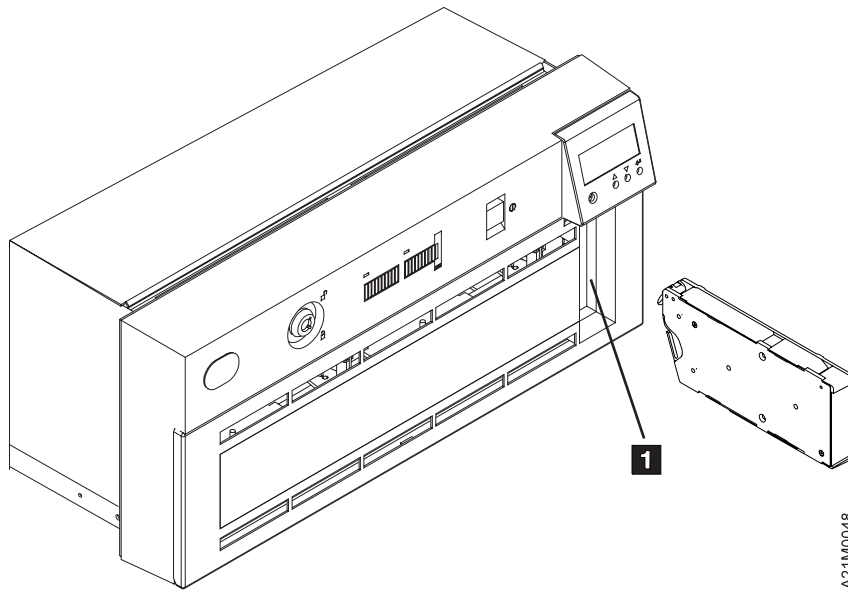

Figure 51. Location of Priority Cell in Models C21 and C22
- ___ Step 16. Load a scratch cartridge through the priority cell (see **1** in Figure 51 on page 102) to the import position by pushing it gently into the priority cell until it comes to a stop and even with the front of the magazine. Select START from the main **OPTIONS** menu.
- ___ Step 41. Load a media cartridge through the priority cell (see Figure 51 on page 102) to the import position by pushing it gently into the priority cell until it comes to a stop, and even with the front of the magazine.